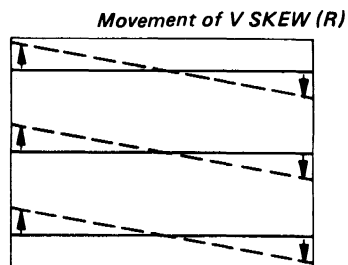

Fig. 3-35
- (9) Adjust RV5533 (V BOW (R)) so that the red horizontal center line is parallel with the green horizontal center line.
- (10) Adjust RV5521 (V CENT (R)) so that the red horizontal center line coincide with the green horizontal center line at the center of the screen (Fig. 3-35).
- (11) When the red horizontal center line slants, adjust RV5527 (V SKEW (R)) (Fig. 3-35).